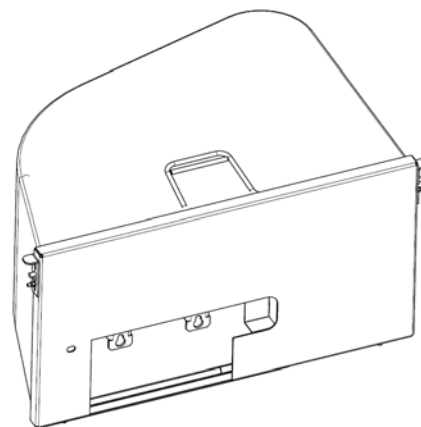

FIG3
- Grass catcher: 100L, see FIG3